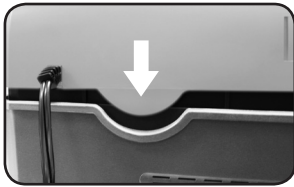

FIGURE 4
- 3) Make sure the shredder head is correctly seated onto the included wastebasket, with all the words and icons facing towards you. The head unit is particularly designed to work only with the integrated wastebasket. The shredders are equipped with a safety interlocking mechanism, which prevents the shredder from working when the head unit is lifted, removed, or accidentally knocked over. The shredder will not function unless the head unit is properly mounted as pictured. (FIGURE 4)